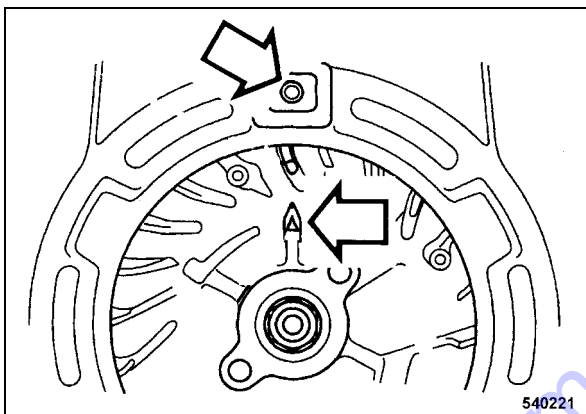

Fig. 48
- Align the alignment mark on the flywheel rib (Fig. 48) with the top bore in the fan cover .